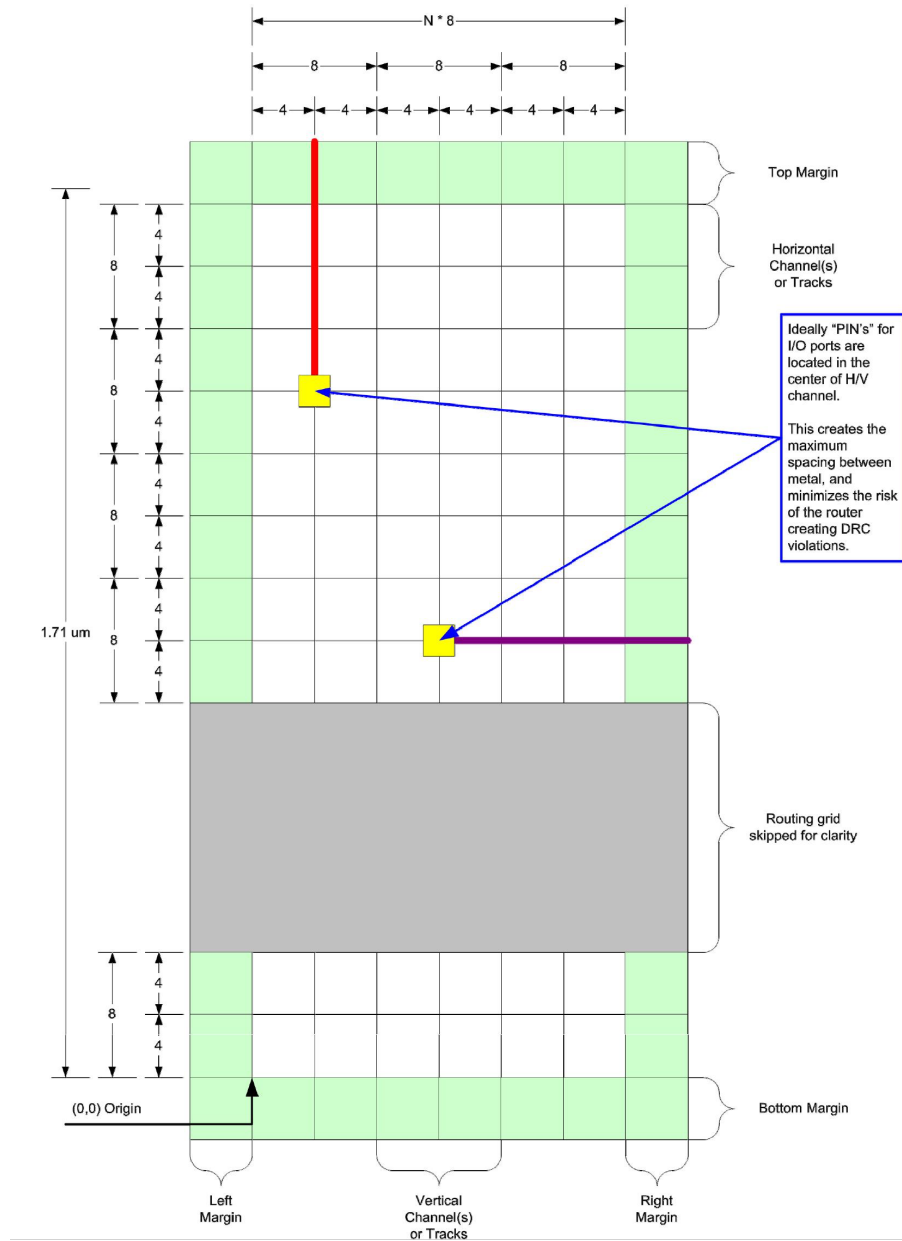

Figure 2: Pin Placement Routing Grid Layout
- **The location of your I/O pins matter.** Each square measures  $4\lambda$ . Notice that there are bolder grid-lines and lighter ones. The bolder grid-lines encapsulate 4 of the  $4\lambda$  squares, making them an  $8\lambda \times 8\lambda$  grid. Your pins should fall within the PR boundary and in the center of horizontal (x-direction) and vertical (y-direction) minor axes (darker grey grid lines) or channels with a spacing of  $8\lambda$ . In other words, I/O pins must be placed on the grid. An example of valid I/O pin locations is shown in Figure 2.